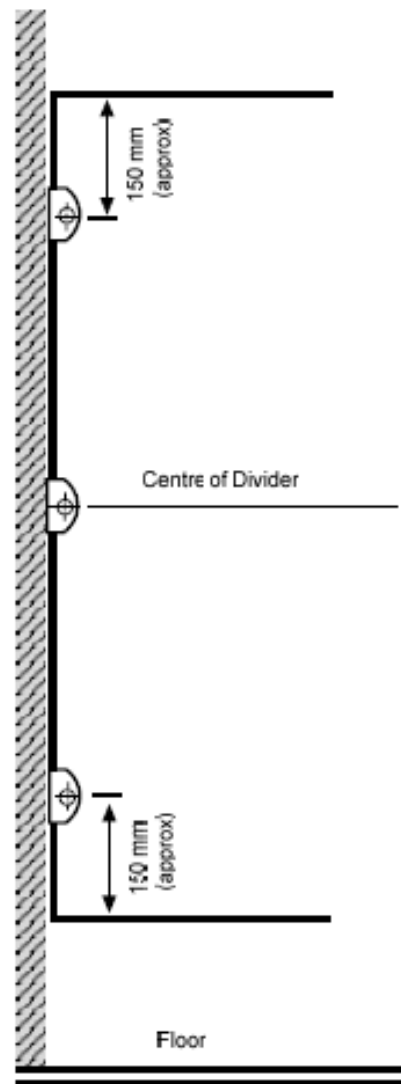

Fig 1 Fitting Wall Mounting Brackets
2. Secure a mounting bracket to the wall at the required centre line height of the divider (see Fig 1) as detailed on page 4.
3. Secure two further mounting brackets to the wall at approximately 150mm from the top and bottom of the required divider position (see Fig 1).